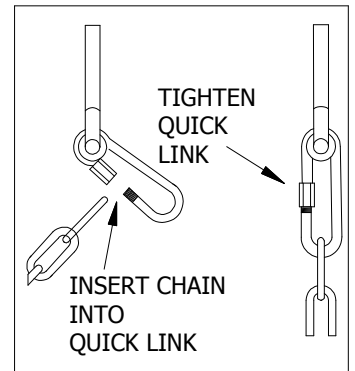

FIG. 4
**ATTACH (2) FW CHAINS TO SWING HANGER QUICKLINKS ALREADY ASSEMBLED TO THE SWING BEAM. (FIG. 4)**